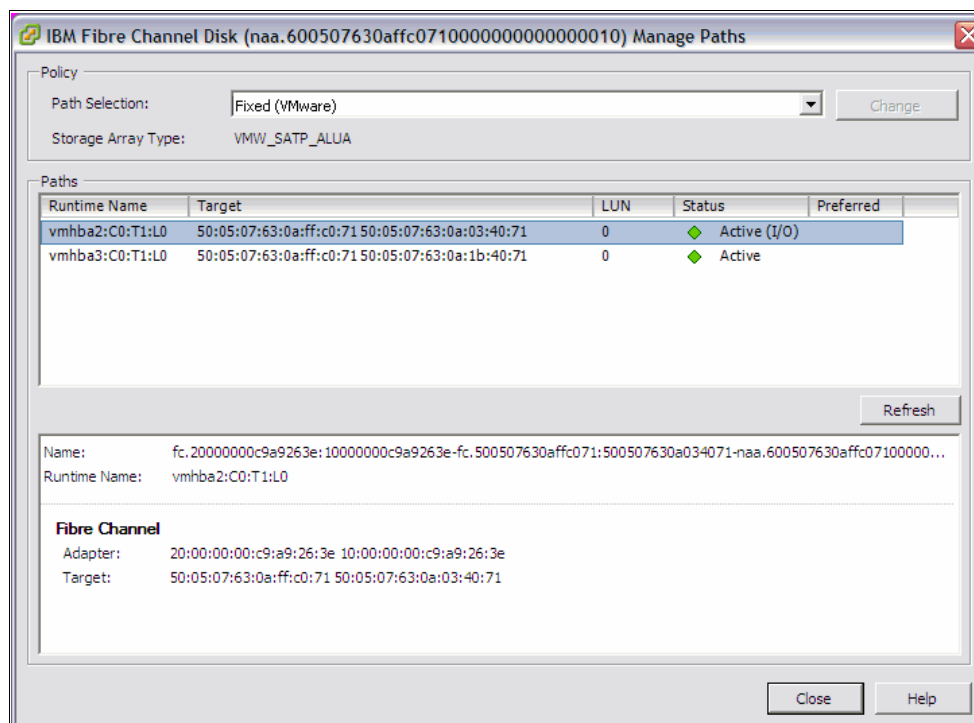

Figure 3-94 ESX multipath volumes
19. Here you see the details of the LUN 0 that has been accessed by two different HBAs zoned to two different DS8000 ports, as shown Figure 3-94.